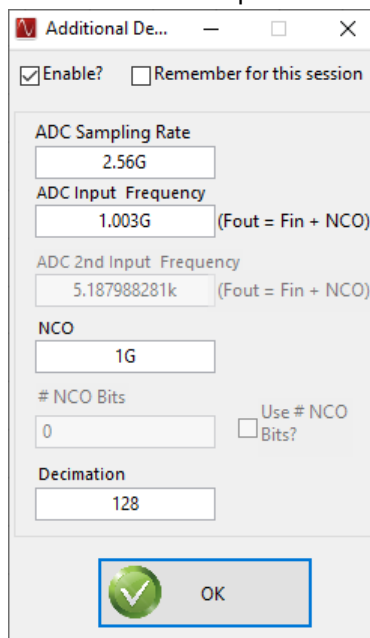

Figure 4-7. Additional Device Parameters , 128x complex decimation
13. Check the tickbox labeled "Enable?" and then enter the parameters shown in Figure 4-7 below.